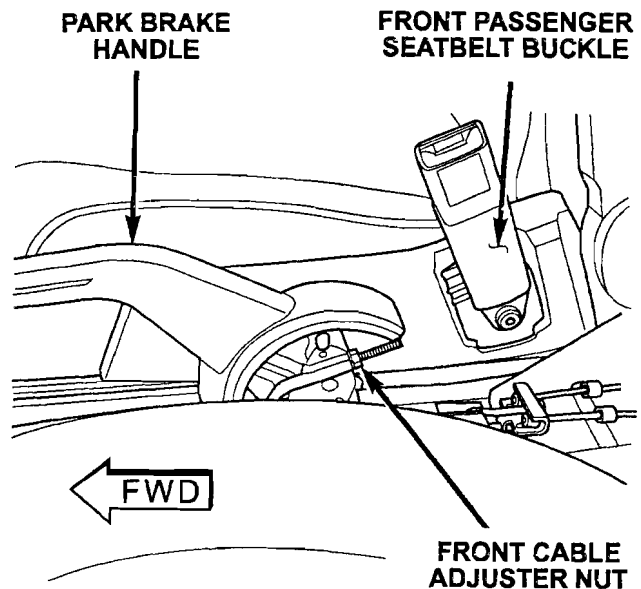

Figure 3
9. With the parking brake in the released position, loosen the front cable adjuster nut, located on the park brake handle, until the nut reaches the end of the threads (Figure 3).